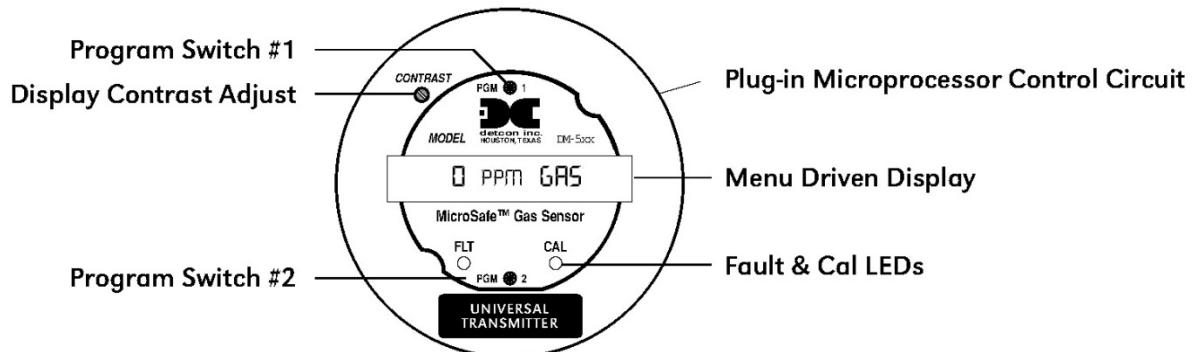

Figure 12 Programming Switch locations
A magnetic programming tool (see Figure 11) is used to operate the switches. Switch action is defined as momentary contact, 3-second hold, and 30-second hold. In momentary contact use, the programming magnet is waved over a switch location. In 3 second hold, the programming magnet is held in place over a switch location for 3 or more seconds. In 30 second hold, the programming magnet is held in place over a switch location for 30 or more seconds. Three and thirty second hold is used to enter or exit calibration and program menus while momentary contact is used to make adjustments. The location of “PGM 1” and “PGM 2” are shown in Figure 12.
- a. Enter the calibration menu by holding the programming magnet stationary over “PGM 1” (see Figure 12) for 3 seconds until the display reads “**1-ZERO 2-SPAN**” then withdraw the magnet. Note that the “CAL” LED is on.